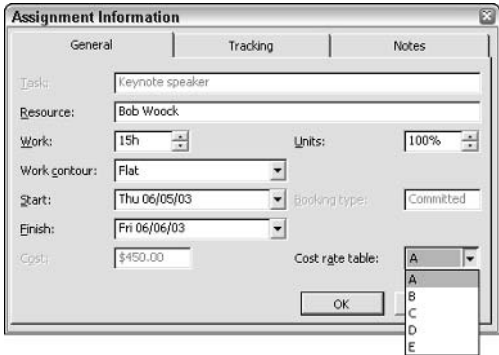

Figure 5-22: Use the General tab of the Assignment Information dialog box to select a cost rate table.
4. Click the Assignment Information button on the Standard toolbar to display the Assignment Information dialog box. Click the General tab, shown in Figure 5-22, to select a cost rate table.